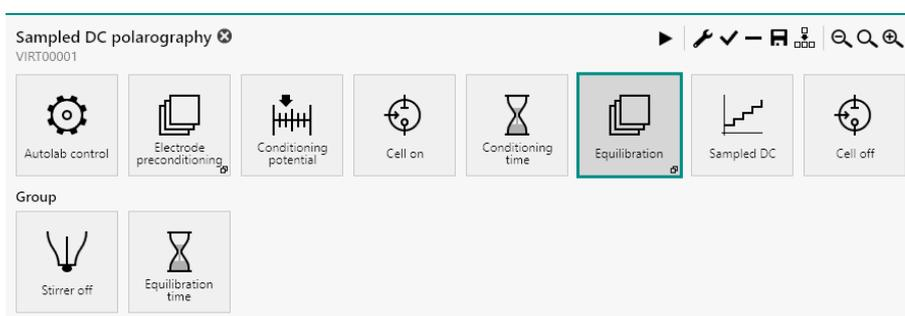

Figure 612 The Equilibration group
- **Equilibration:** this command group is used to create an equilibration step in the procedure. The commands in this group are used to switch the stirrer off and wait for the specified amount of time (see Figure 612, page 515).